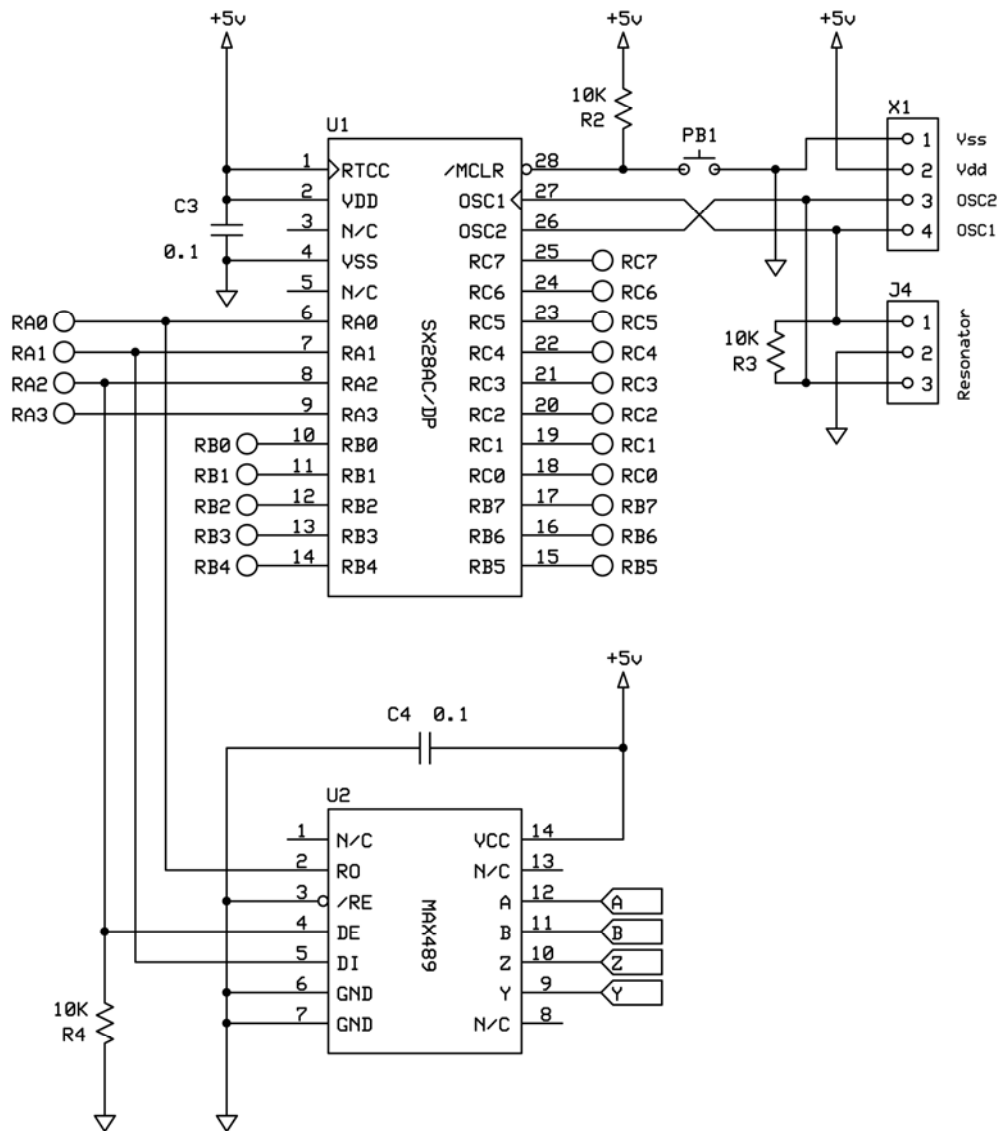

Figure 147.1: The SX28 processor and RS-485 Interface
Figure 147.1 shows the SX28 processor and RS-485 interface (MAX489 or equivalent). As you can see, it is in fact very generic. The design uses port RA for communications and ports RB and RC for I/O that is specific to the node. For the purposes of the rest of this article my node is going to be a 10-segment LED display. I’m starting with simple hardware so that I can get my head around the requirements of managing network messages. The node has dedicated RX and TX pins for the RS-485 link, so we can tie the MAX489 Receive Enable (/RE) pin to ground; that way the SX will always be “listening.” On the other side, however, we will want to selectively activate the Data Enable (DE) pin so that RS-485 output from the node is active only when transmitting.